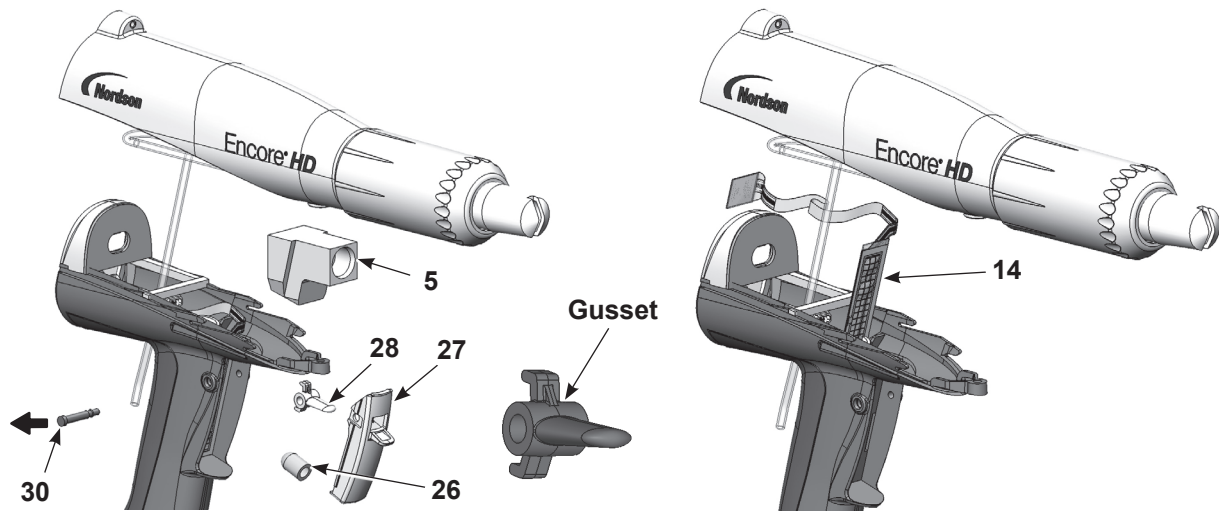

Figure 17 Trigger Switch Replacement
1. See Figure 17. Orient the new switch (14) with the grid facing the front of the gun, then carefully feed the square, bottom end of the switch through the slot in the handle.
4. Install the purge trigger (28) into the spray trigger (27) with the gusset oriented upward as shown. **Do not install the purge trigger upside down.**
5. Position the triggers in the handle and hold them in place while pressing the axle (30) through the handle and triggers until the head of the axle is flush with the handle. The axle will snap into place when properly installed.